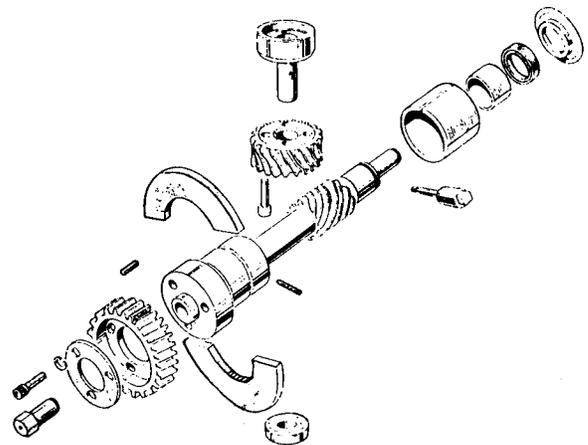

Fig. J.13.
6. Remove the sump and oil pump (Page K.6 and K.7) and tap the fuel pump drive shaft up out of the crankcase. Remove any shims that may be present at the bottom of the bearing recess. An exploded view of the normally aspirated and early turbocharged fuel pump drive assembly is shown in Fig. J.13. Current engines have a hydraulic worm-wheel assembly which is described later.